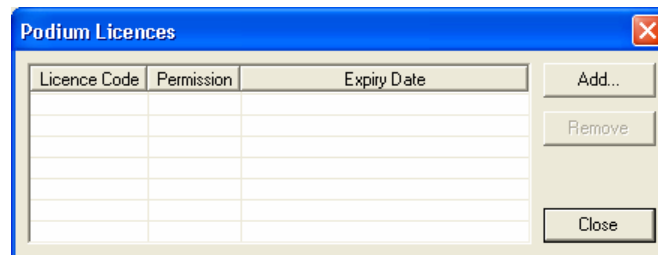

Figure 2 - Licence Details Dialog
1. Select **Help** ➔ **Licences** from the main menu, the Licence Details Dialog (Figure 2) appears.